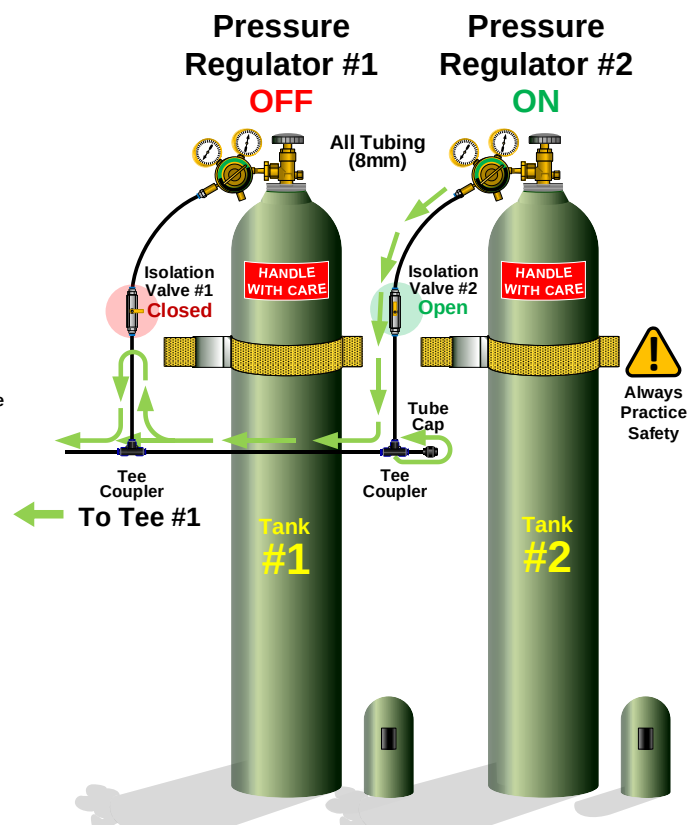

Figure 16
15.6 When the Fiber Bundle forward progress begins to decline, quickly and simultaneously close Isolation Valve #1 and open Isolation Valve #2. This action switches the tanks and keeps a constant supply of gas flowing to the Blowing Head Air Motor and Tube Span through the "First" Tee Coupling. See Fig. 16